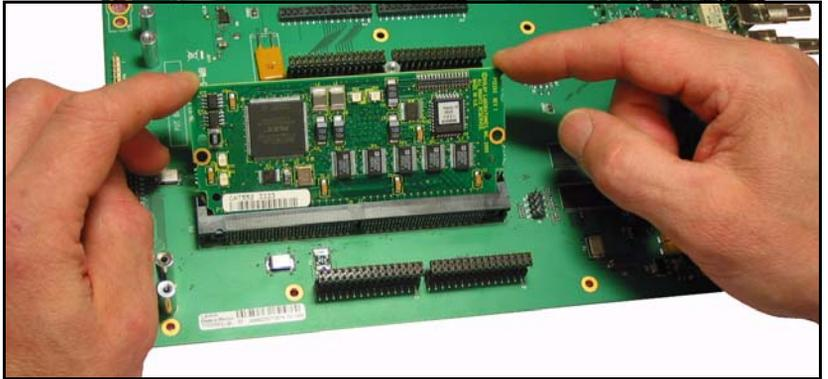

Figure C-39. Inserting Dolby Decoder Module into Socket
6. Insert the Dolby decoder or encoder module into the socket. (See Figure C-39.)